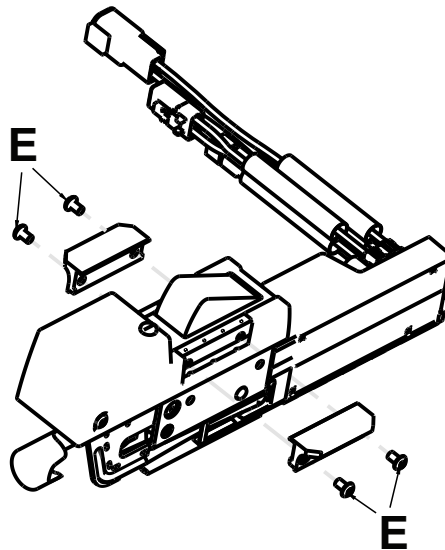

Figure 52 – Remove the retainer wings
11. Using a T25 Torx driver, remove the four button head cap screws (E) that secure the two retainer wings and remove the retainer wings (Figure 52). Save all parts.